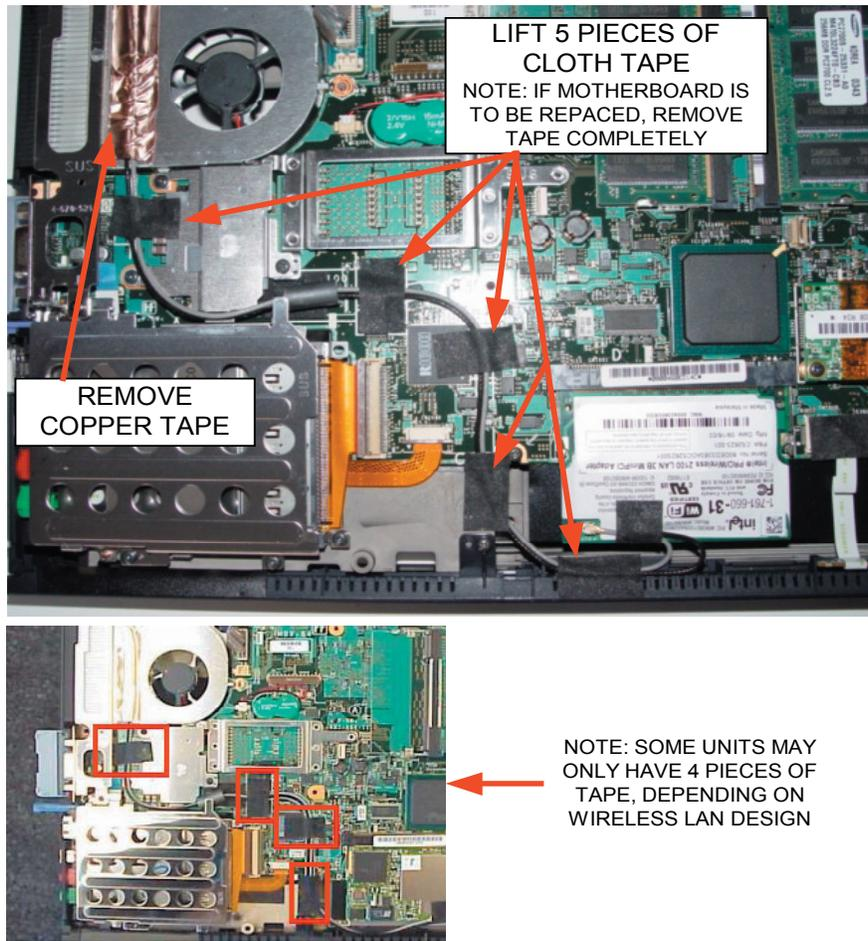

FIGURE 2-9 - WIRELESS LAN REMOVAL (step 1)
Step 1: Lift one side of each of the 5 pieces of cloth tape securing the two wireless LAN antenna cables as shown in Figure 2-9. Lift one side of the copper tape securing the cables to the cooling fan assembly. NOTE: If you are going to replace the motherboard, remove the tape pieces completely as they will have to be transferred to the replacement board. Some models may only have 4 pieces of cloth tape. It depends on what type of wireless LAN assembly is used.